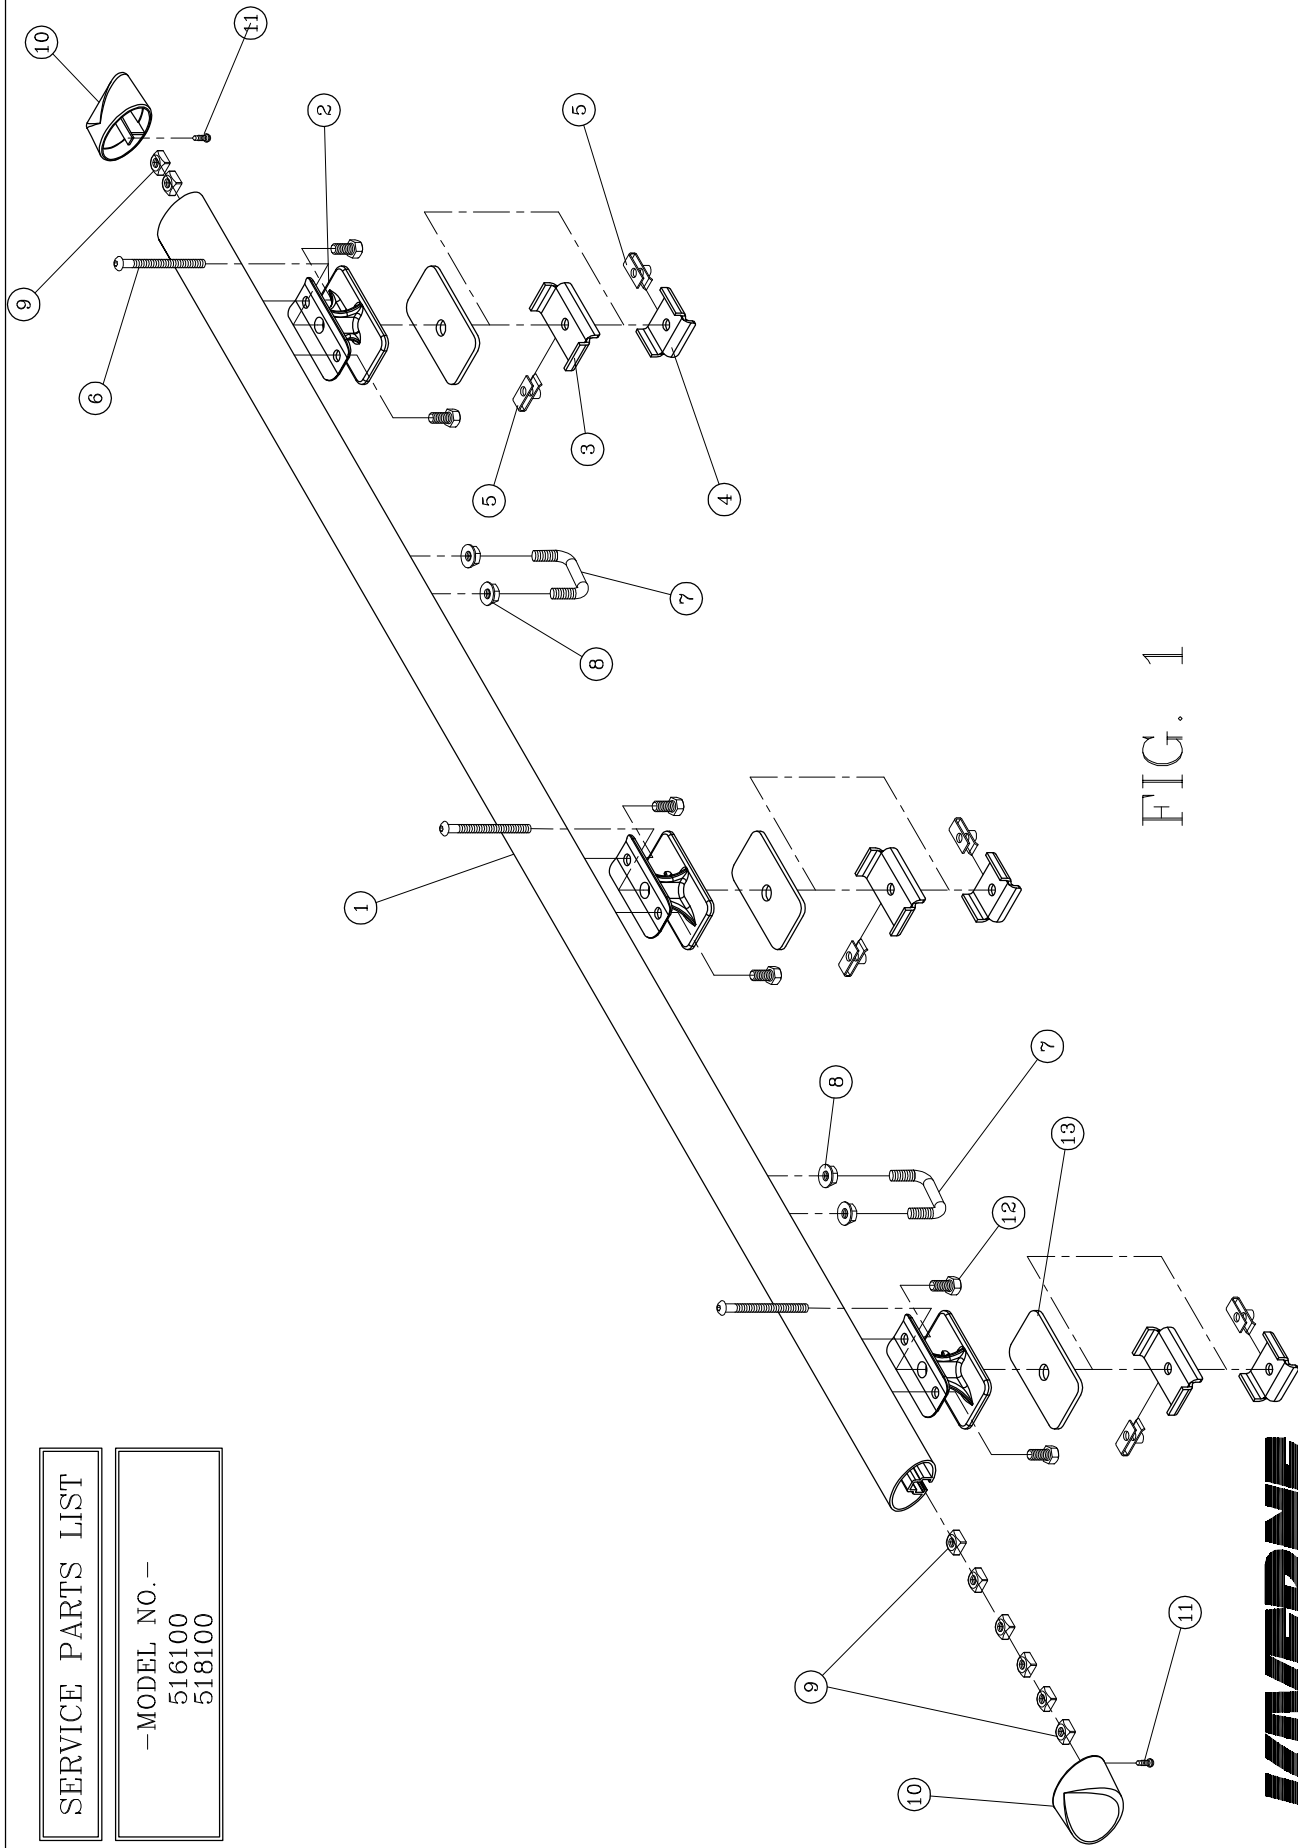

FIG. 1
1. Read instructions completely and check to make sure that all required parts are on hand before starting the installation. See **fig 1**.